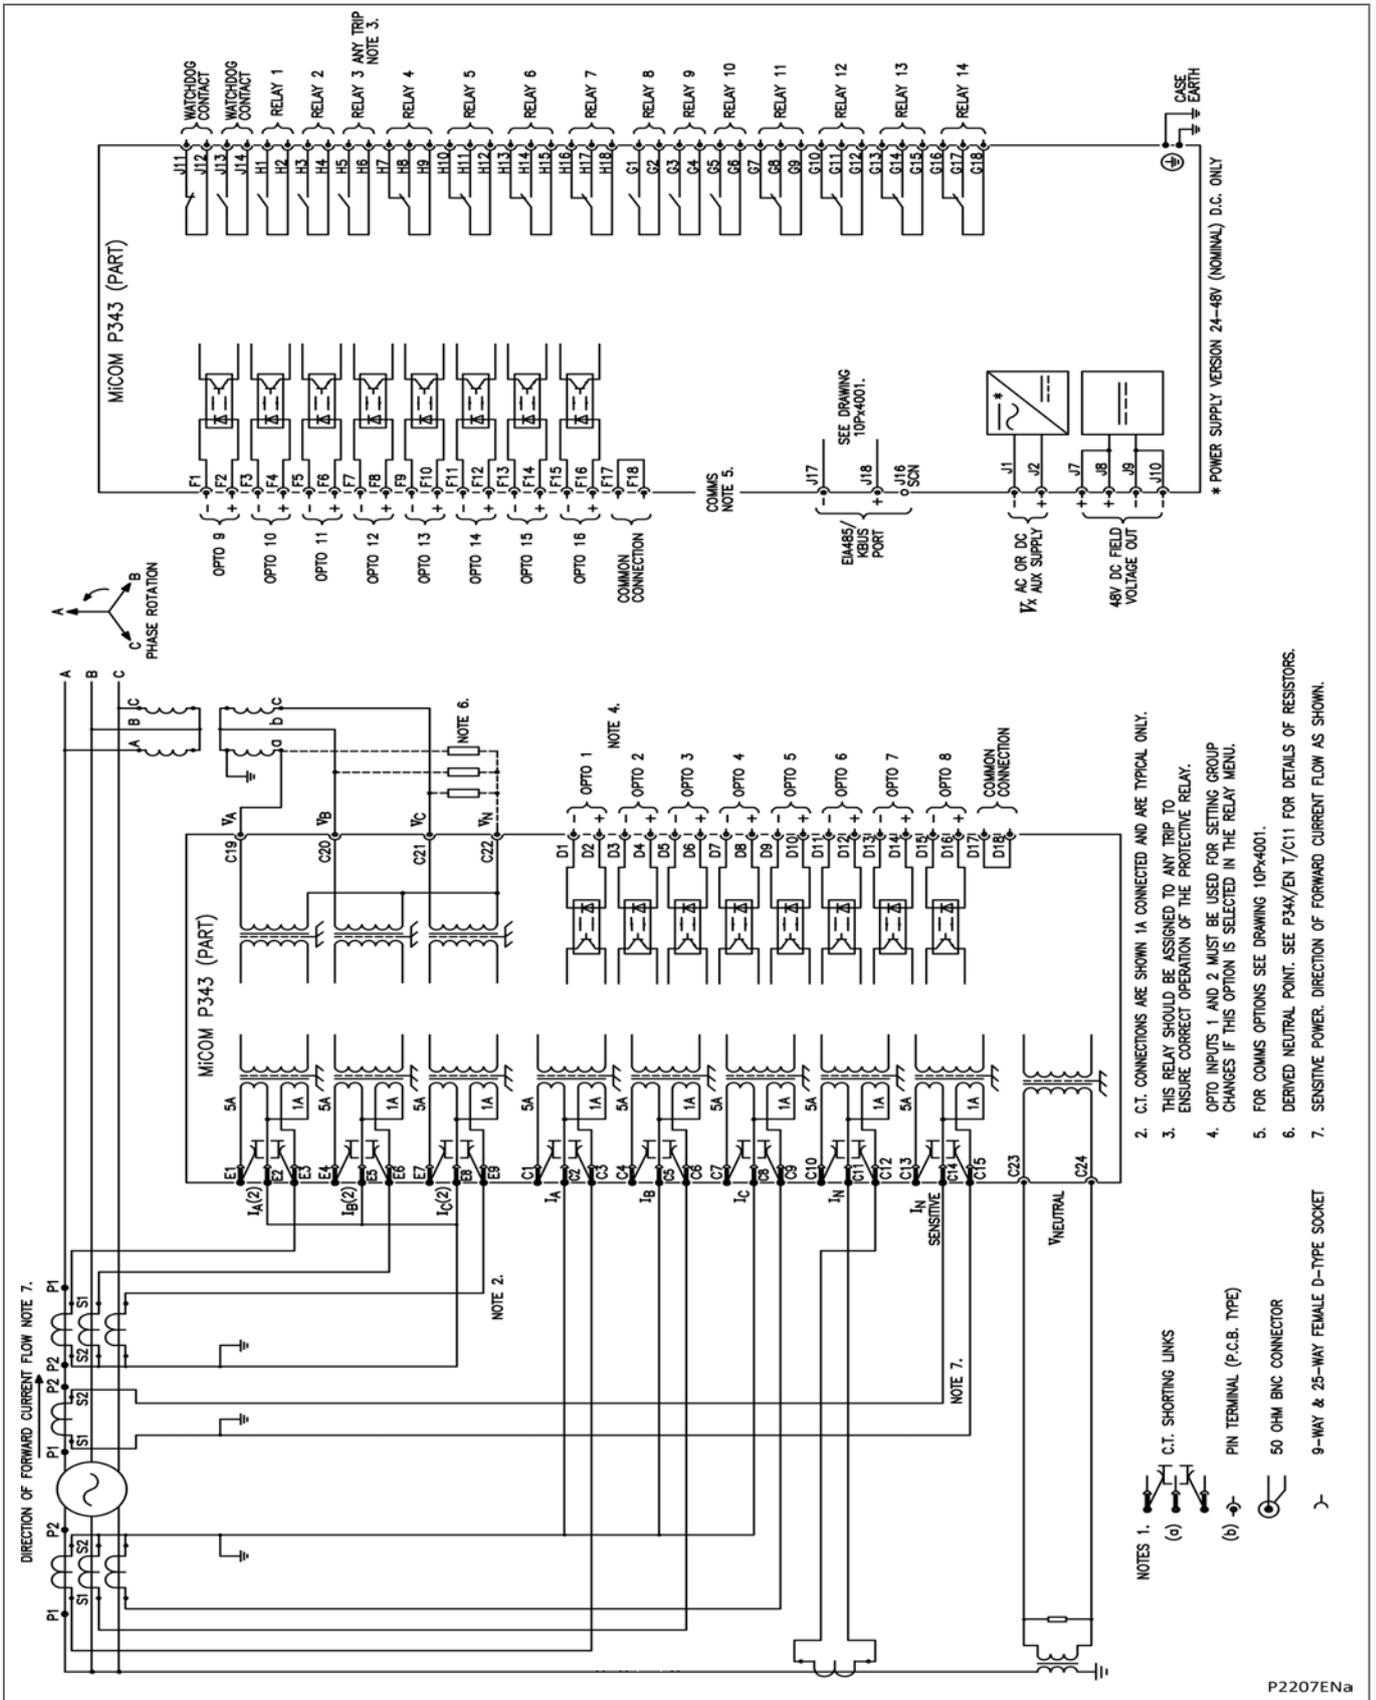

Figure 56 - P343 Generator protection relay with biased differential using VEE connected VT's and sensitive power (16 I/P & 14 O/P)
- Figure 56 - P343 Generator protection relay with biased differential using VEE connected VT's and sensitive power (16 I/P & 14 O/P)